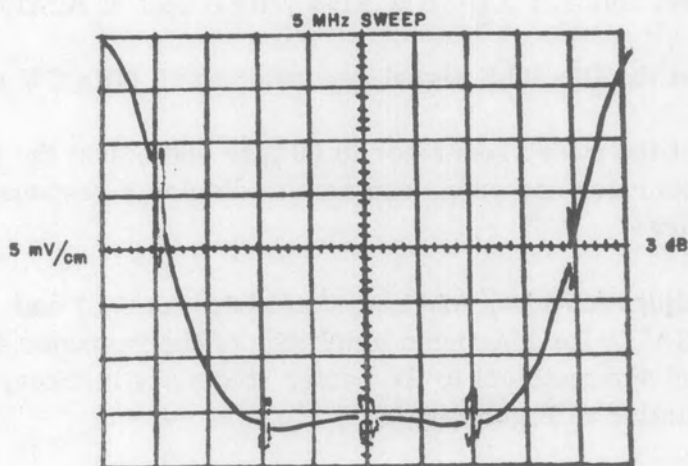

Figure 4-10. Response Curve, 60 MHz IF Amplifier
- (2) Select the 200-400 MHz band with the Tuner Head BAND SELECT switch.
- (3) Set the HP-608E signal generator to 60 MHz CW mode.
- (4) Tune the sweep generator and tuning head to 400 MHz. Adjust the sweep generator and scope controls to display a response curve.
- (5) Adjust A1A4L4, A1A4L5 and A1A4L6 for a maximum amplitude symmetrical response as shown in Figure 4-10.